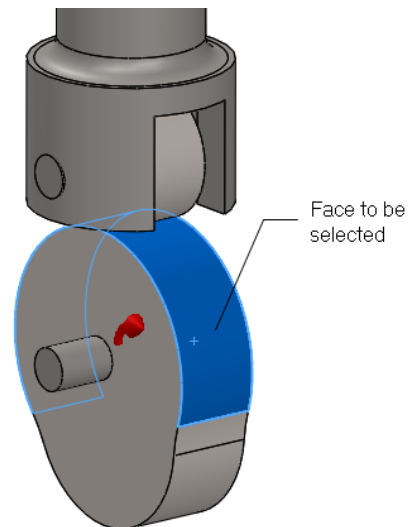

Figure 20-27 Face to be selected for specifying direction of rotation
3. Select the round face of the cam; a motor is applied. Also, the direction of rotation is indicated by a red arrow, refer to Figure 20-27.